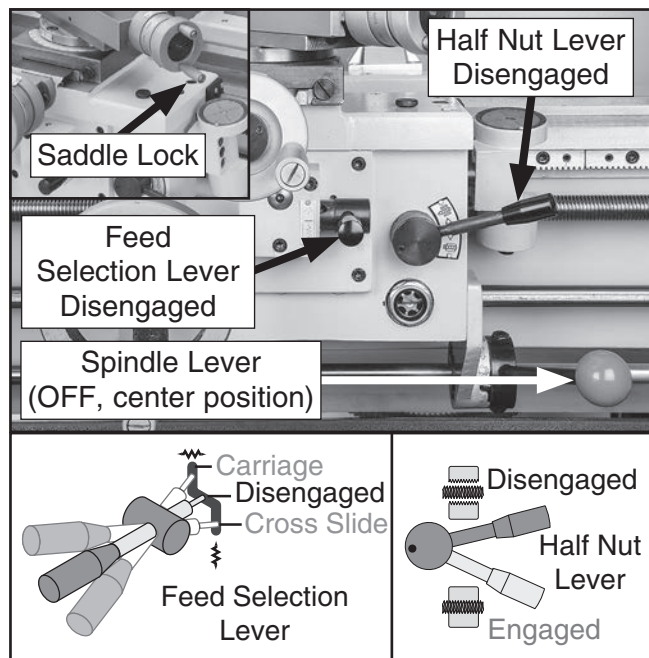

Figure 20. Apron controls.
6. Make sure spindle lever is in middle (OFF) position to prevent unexpected startup when power is enabled (see **Figure 20**).
7. To ensure carriage components do not unexpectedly move during following steps, disengage half nut lever and feed selection lever (see **Figure 20**).